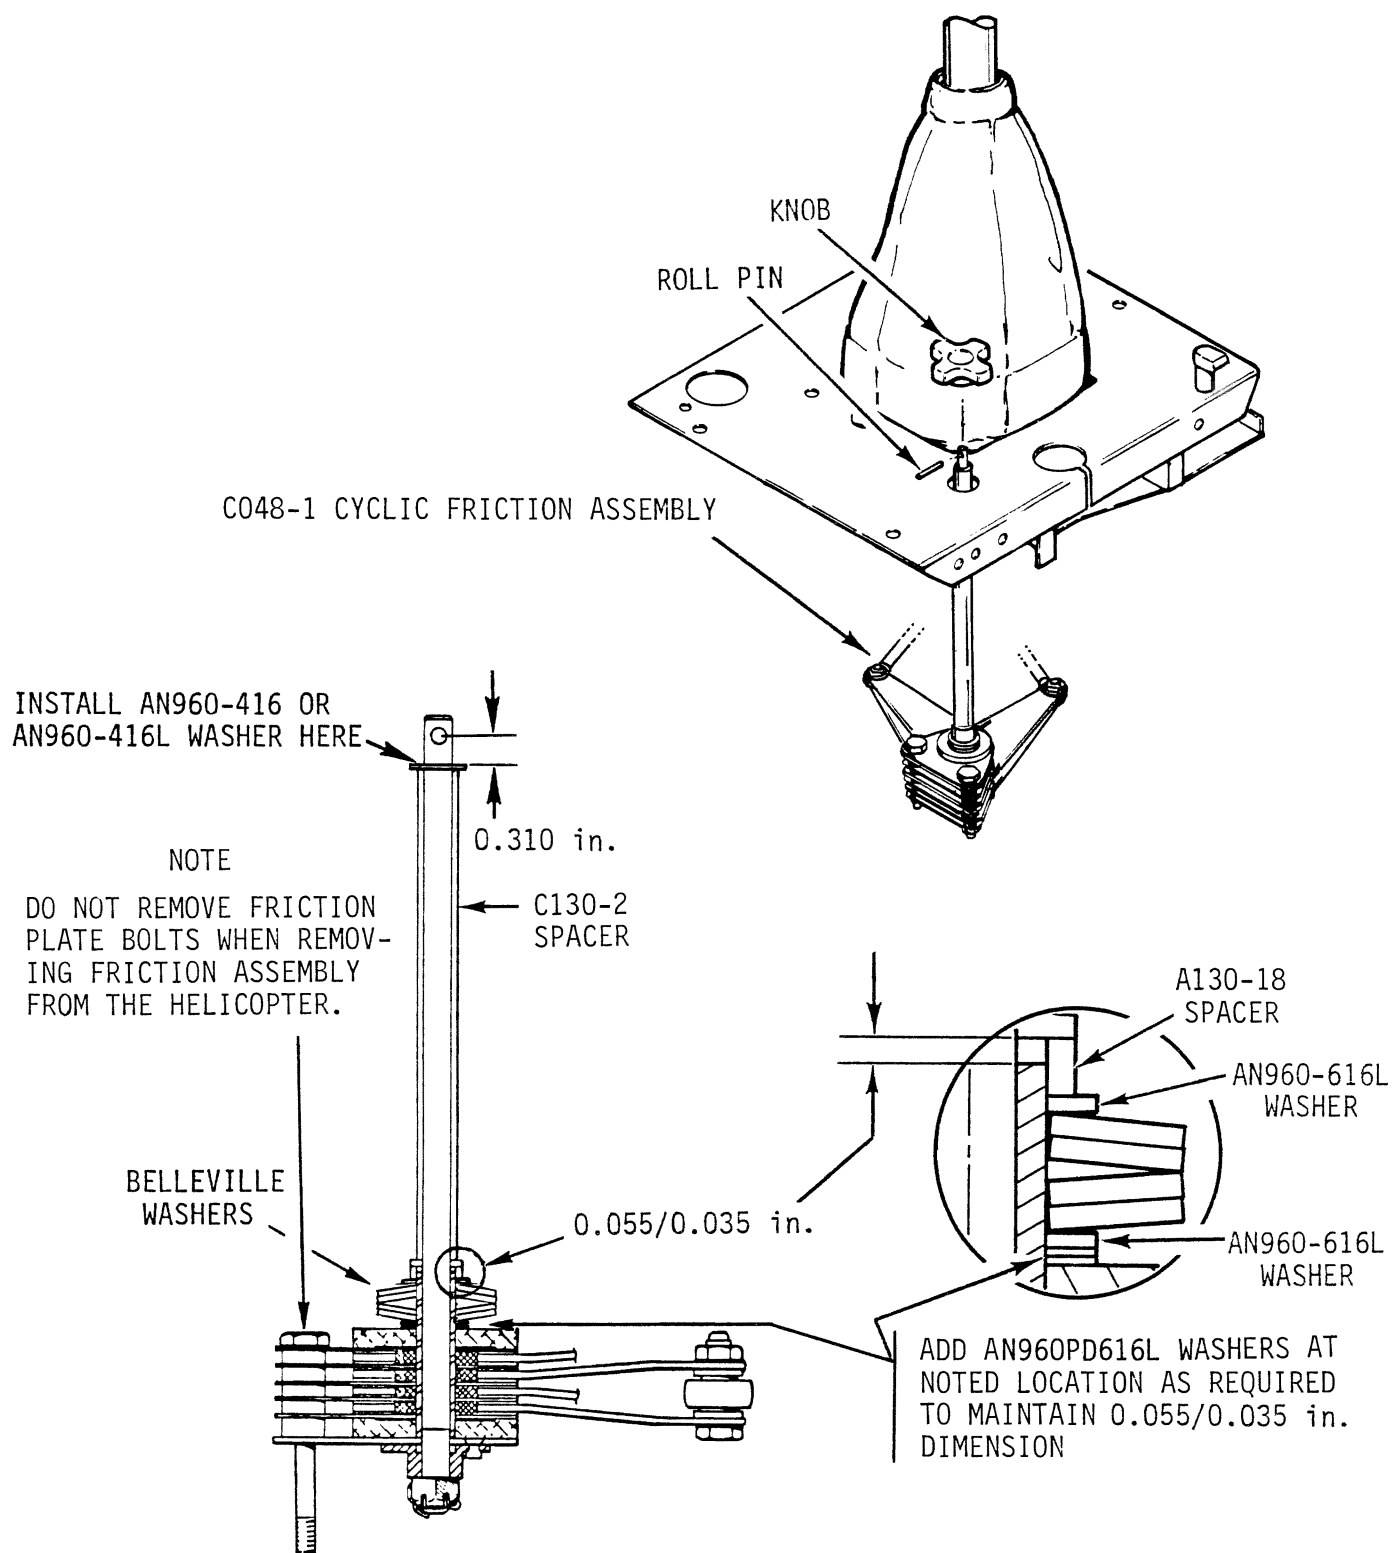

FIGURE 8-4D CYCLIC FRICTION ASSEMBLY AND ADJUSTMENT
- d) Install AN960-416 or -416L washer, as required, per Figure 8-4D so knob rotates 1/8 to 1 turn before adding friction. With friction on, force required to move cyclic in a lateral direction should be 7-13 lb (measured at grip) with trim motors in neutral position.